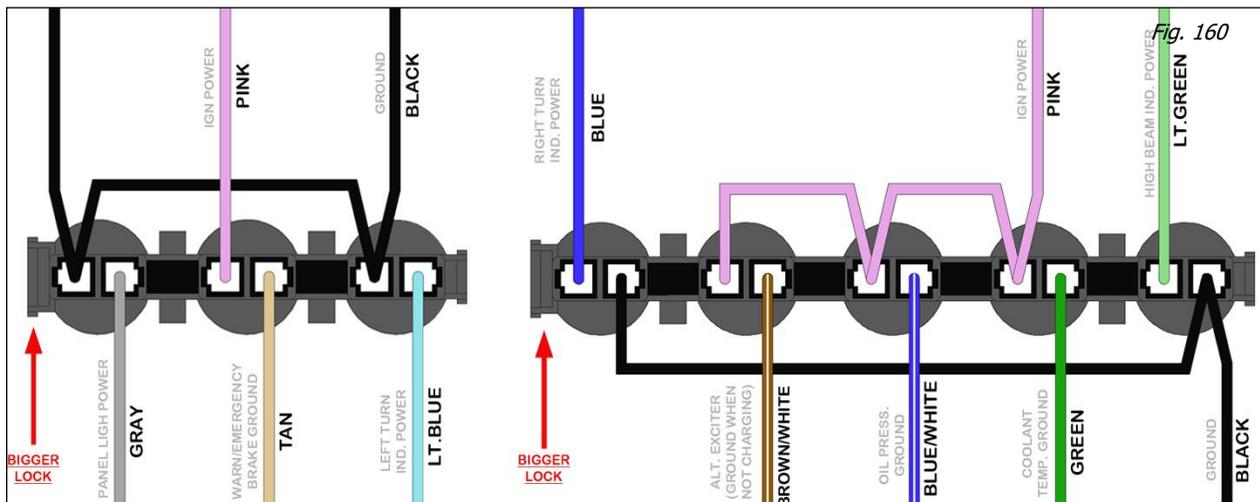

Fig. 160
- Using the diagram below, install the wires found on the Painless sub harness into the factory connectors (see Fig. 160). Pay attention to the locks on the connector shown with the arrows in the diagrams. These arrows will help identify the proper sockets that the wires will need plug into.